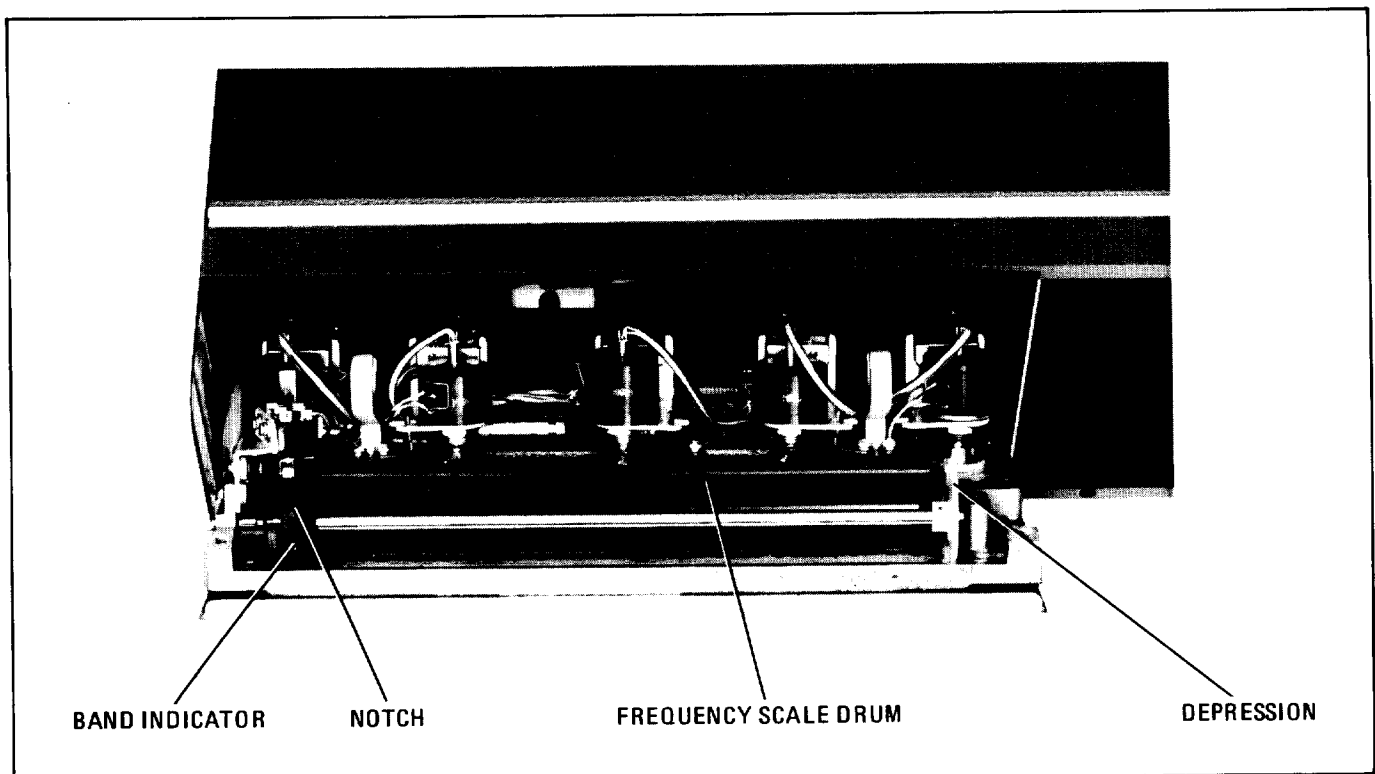

Figure 2-2. Mainframe Front Panel in Open Position
- b. Swing front panel forward and down to position shown in Figure 2-2.
- d. Insert frequency scale so key (a  $\frac{1}{16}$ -inch long,  $\frac{1}{2}$ -inch wide protrusion) on left end of scale fits into notch, shown in Figure 2-2, in roller on left-hand edge of drum.